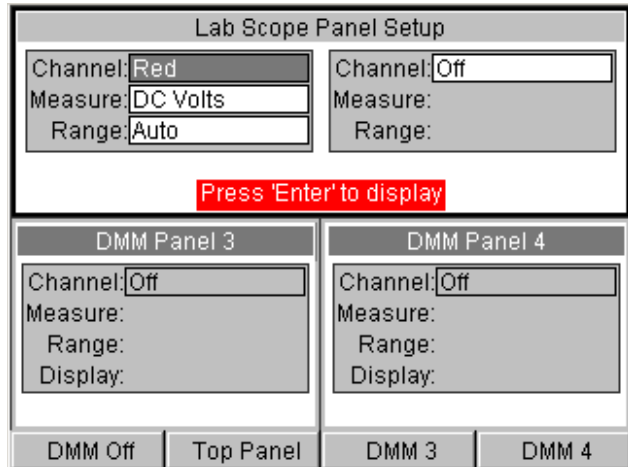

Figure 7.13: Lab Scope Panel Setup Screen, DMM On
- 3 Press the DMM On function key. This displays the Lab Scope/DMM setup screen (Figure 7.13 on page 52).